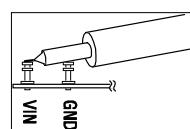

Figure 2. Measuring Input or Output Ripple
Figure 2 shows efficiency at 200mA flash output with various 4.7uH inductors.
- NOTE.** When measuring output voltage ripple, care must be taken to avoid a long ground lead on the oscilloscope probe. Measure the output voltage ripple by touching the probe tip directly across the output capacitor. See Figure 2 for proper scope probe technique.